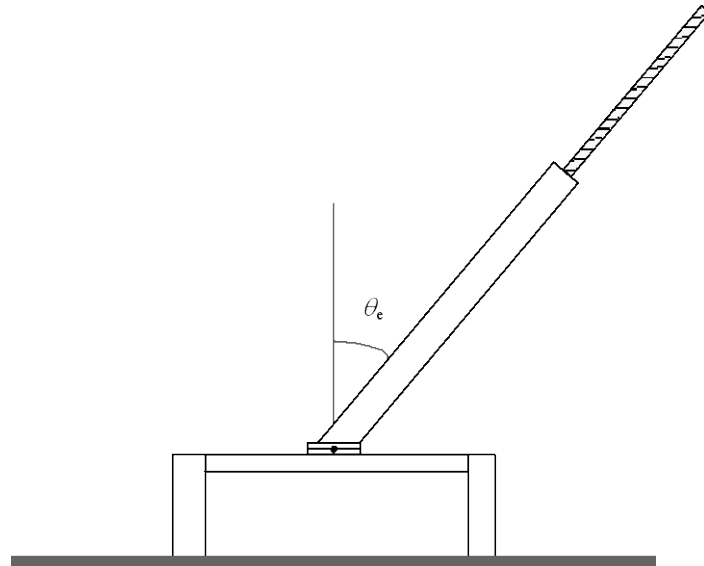

Figure 4: In this measurement set the pendulum so that its equilibrium position deviates from the vertical.
5. In order to determine  $\kappa$ , assemble now the pendulum and set it with its rotation axis horizontal. The threaded rod must initially be as far as possible inside the pendulum. Lock the pendulum to the steel wire, with the hex screw, at about half way between the wire clamps and in such a way that its equilibrium angle (under the combined action of weight and elastic recall) deviates sizeably from the vertical (see figure 4). Measure the equilibrium angle  $\theta_e$  for several values of  $x$  (at least 5). [4 points]